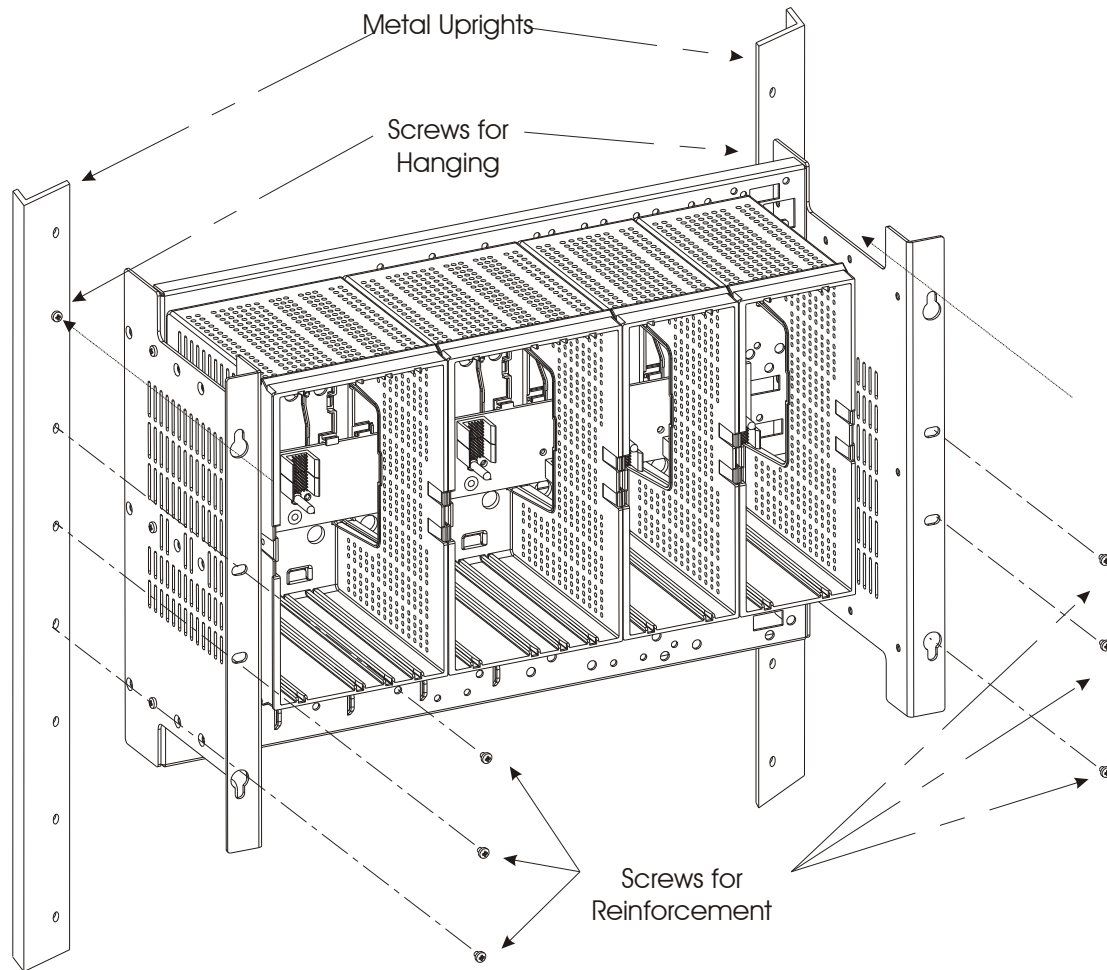

Figure 2-6 Installation of ACE3600 RTU 19" Frame in Rack Unit - Exploded View
- 3) Align the keyholes on the brackets with the two screws on the rack metal uprights, and hang the frame on the rack metal uprights. See Figure 2-6. Tighten the two screws to the uprights.
- 4) To reinforce the installation, add three more M5 screws (not supplied), through the remaining three holes on the metal bracket, into the upright of the 19" rack unit. Repeat on the opposite upright. See Figure 2-6.